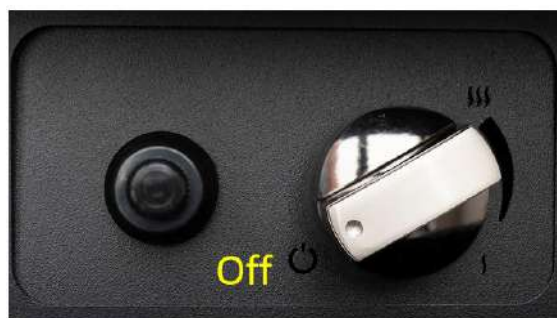

Fig 9 – Turning off the device
- To turn off the device, simultaneously press and turn the knob all the way clockwise (Fig 9). The gas supply will be cut and the flame on burner will be turned off.